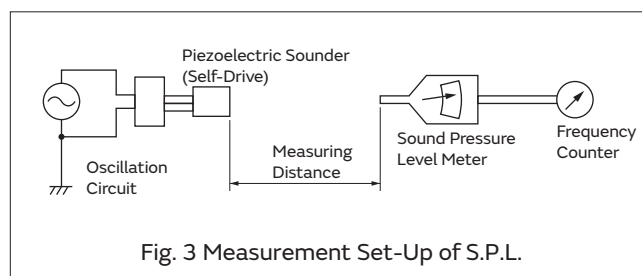

Fig. 3 Measurement Set-Up of S.P.L.
- (1) (i), (ii), (iii) in Fig. 3 (Examples of the External Drive Circuit) (page 19), input DC voltage for Piezoelectric sound components should be getting higher. Variable range of input voltage should be less than maximum input voltage.
The sound pressure level is measured with a sound pressure level meter as shown in Fig. 3.